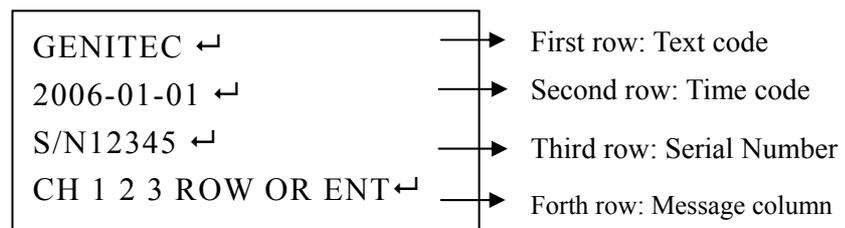

Figure 36
2. Press the button , panel board will display as below (refer to figure 36) :